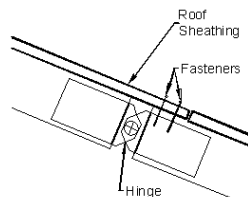

Figure 32. Sheathing at hinge line
6. **Fasten sheathing.** Fasten sheathing from the upper portion of the roof to the lower fixed portion of the roof just below hinges with two 2-15ga staples or 8d nails at each truss (**Figure 32**) or at six inches o.c. along blocking (if present).